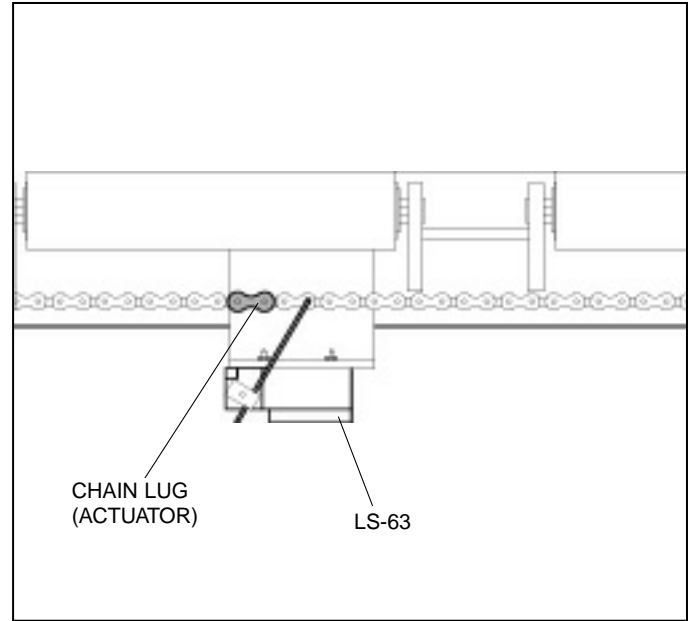

Figure 2.28 SWITCH LS-63 ON PALLET TRANSFER.
2.2.6.3 LS-63 switch stops the Pallet Transfer conveyor at home position when lug is approximately 2" to 3" [51 to 76mm] behind pallet, ready to push next pallet. See figure 2.28.